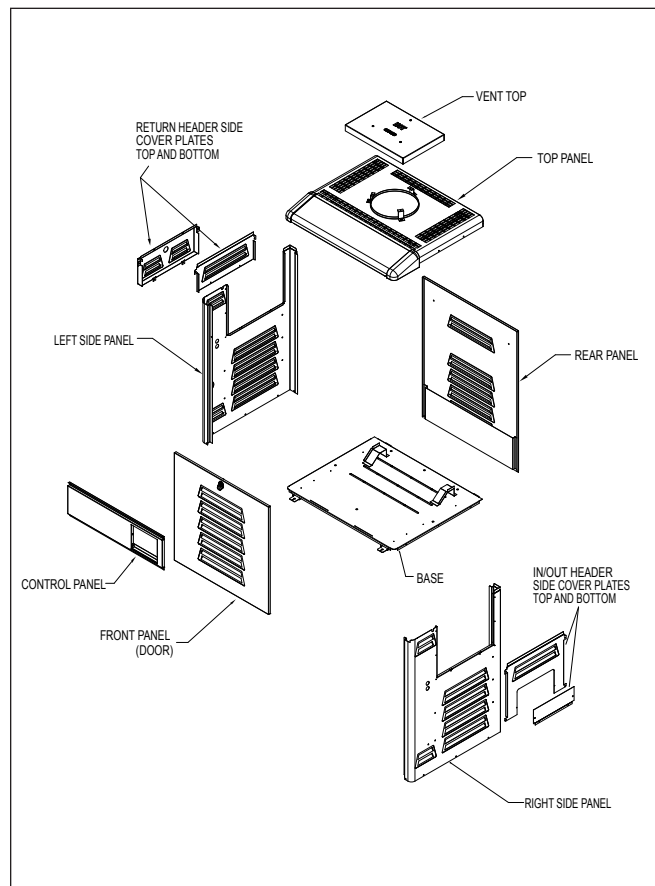

Figure 10. Legacy Panel Identification
1. For an existing installation, drain the heater by removing the two (2) drain plugs on the inlet/outlet header and the drain plug on the return header.
3. Remove the I/O header side cover plates, top and bottom. See Figure 10.
4. Remove the return header side cover plates, top and bottom. See Figure 10.
5. Tag and disconnect the black high limit wire leading to the pressure switch (PS) and the black wire on the Fireman's switch terminal which leads to the high limit switch.